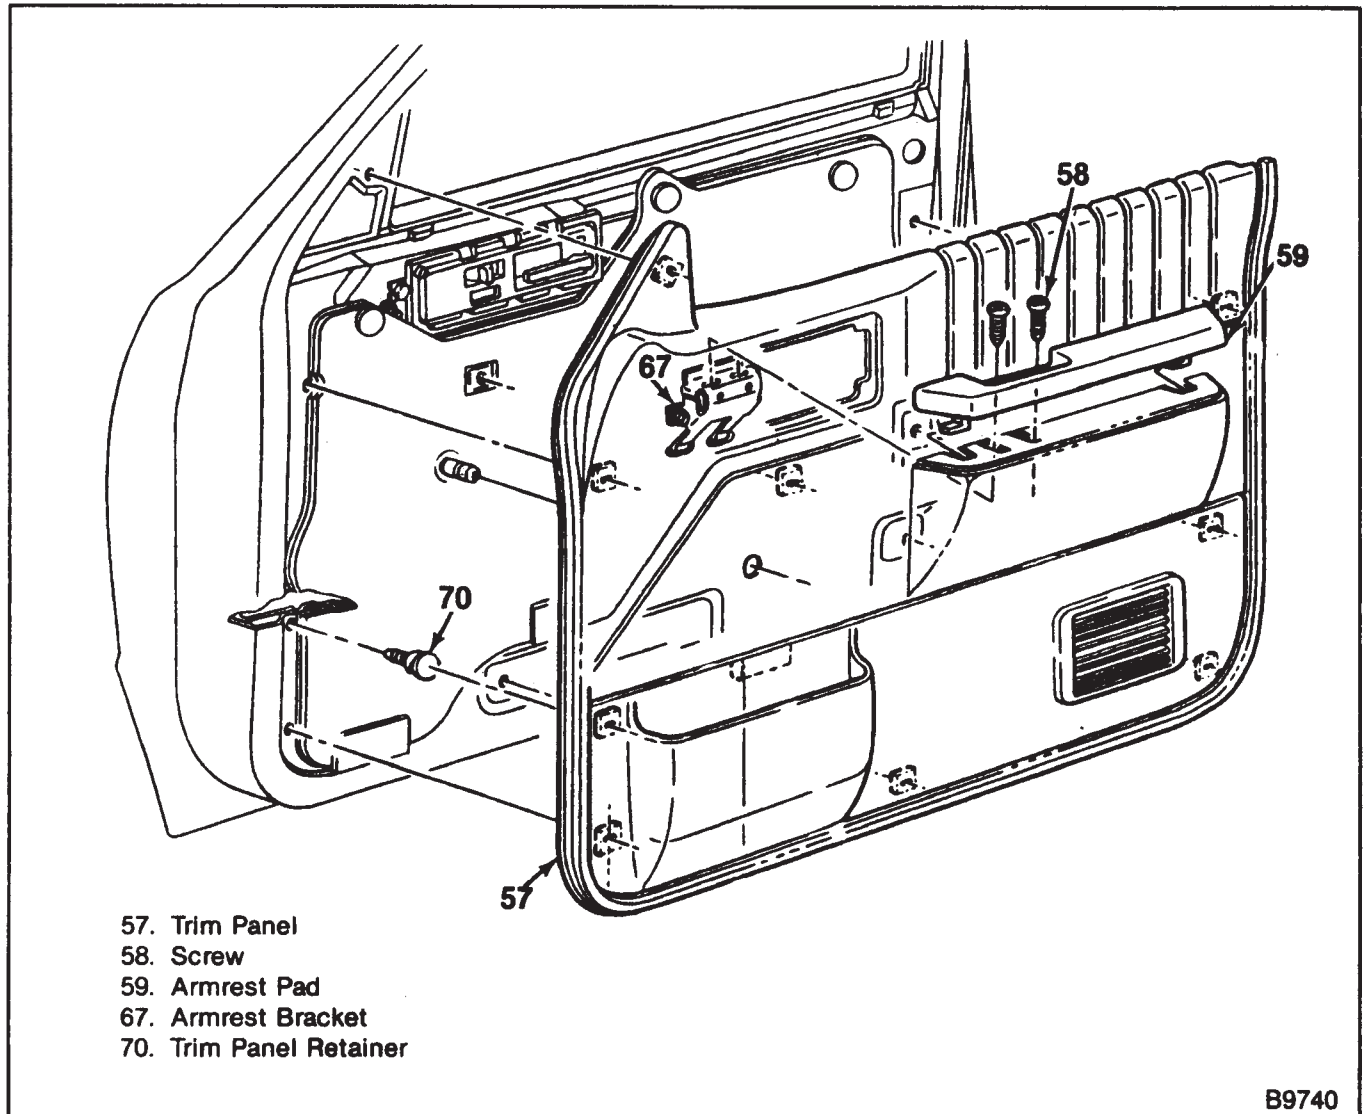

Figure 15—Armrest Removal
3. Armrest (figure 15).
2. Armrest (figure 15).
↔ Remove or Disconnect (Figure 15)
↔ Install or Connect (Figure 15)